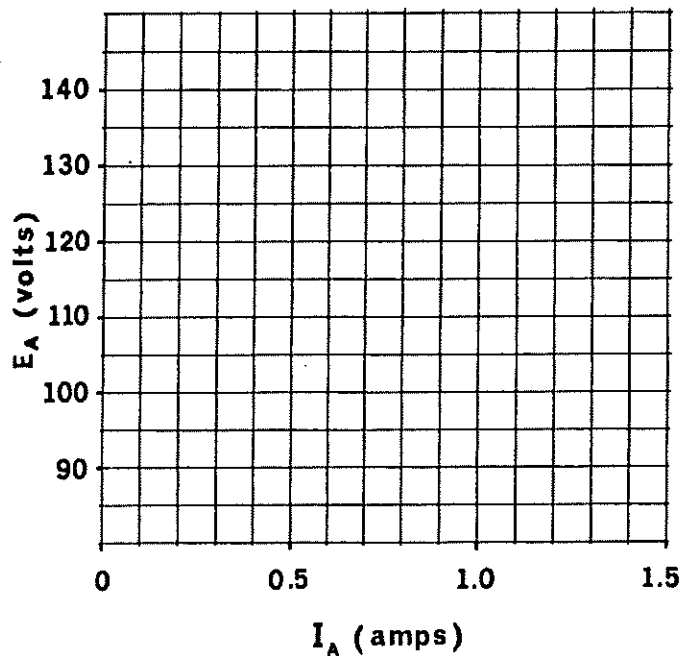

Figure 7-5.
4. Plot the E_A vs I_A regulation curve on the graph of Figure 7-5. Use the data from Table 7-2.